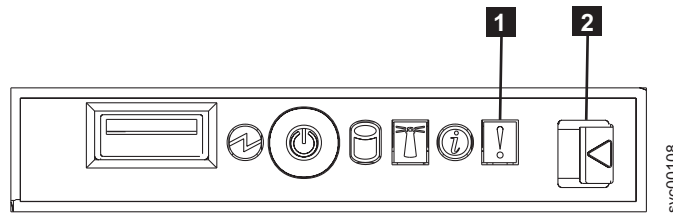

Figure 214. SAN Volume Controller 2145-8F4 operator-information panel
5. Press the operator-information panel release latch (**2** in Figure 214) and slide the operator-information panel away from the SAN Volume Controller 2145-8F2.